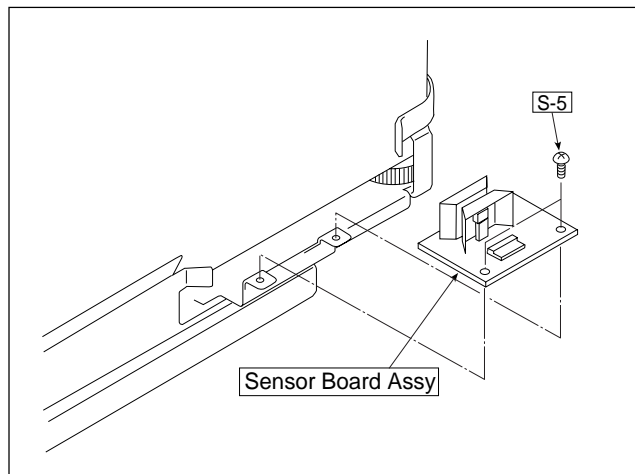

Fig. 15
11) Remove the Sensor Board Assy. (See Fig. 15.)